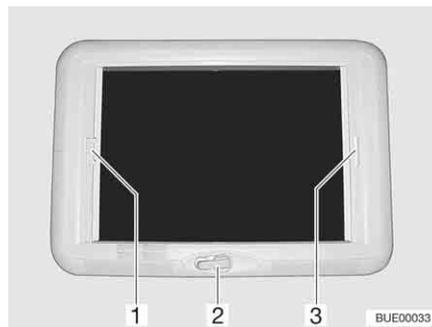

Fig. 88 Wind-up skylight
*Opening:* ■ Rotate the hand crank (Fig. 88,2) until a resistance can be felt.
*Closing:* ■ Pull the handle of the Roman shade (Fig. 88,3) and release in the desired position. The Roman shade will stay in that position.
*Closing:* ■ Pull insect screen at the handle (Fig. 88,1) to the opposite handle of the Roman shade (Fig. 88,3) and allow to engage.
*Opening:* ■ Press the handle of the insect screen (Fig. 88,1) at the back upwards and detach the insect screen from the Roman shade (Fig. 88,3).